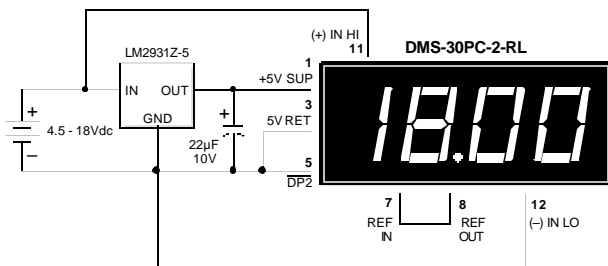

Figure 8. 4.5-18V Power Supply Monitor
- 6. Power Supply Monitoring:** One of the most common digital panel meter applications involves monitoring the output voltage of the system power supply — often this supply also powers the meter itself. The low-power, red LED DMS-30PC-2-RL can be configured to allow power supply monitoring over the range of 4.5-18Vdc. The circuit in Figure 8 uses a low-drop-out, three-terminal regulator (LM-2931Z-5, available from National Semiconductor) to provide regulated 5V power to the meter. The LM-2931 was chosen because it has the following on-chip